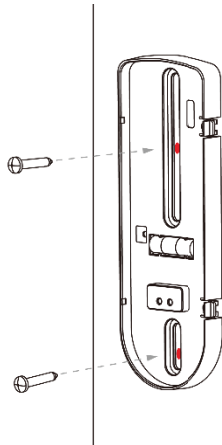

Figure 17: Installing the Screws
5. Secure the bracket with screws. Please see Figure 17.